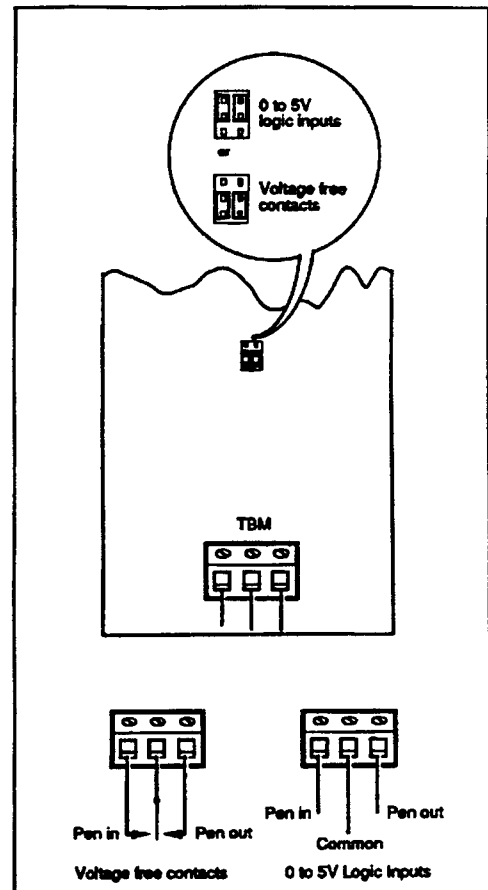

Figure 4-16. Event Pen
Make connections to the terminal block on the event pen printed circuit board as shown in Figure 4-16. Check that the plug-link configuration is correct for the input type.
1. The event pen operates over the outer 5% of the chart width, moving both outwards and inwards from the neutral position (Pen out or Pen in Figure 4-16).